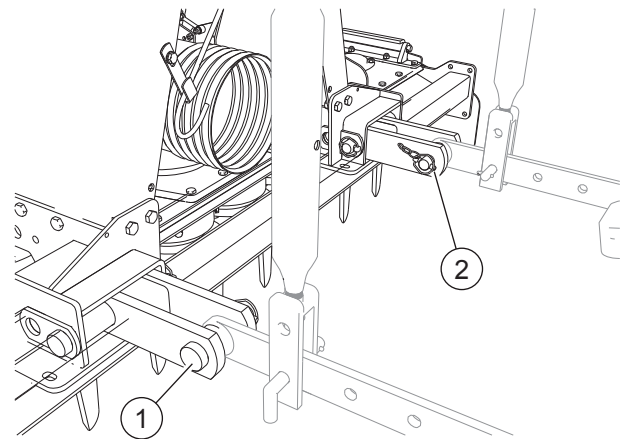

FIG. 24
- Move the power-lift bars to the lower hitches (“Fig. 24”). Insert the attachment pins (1). Fasten the pins with the trigger pins (2) part of standard equipment.